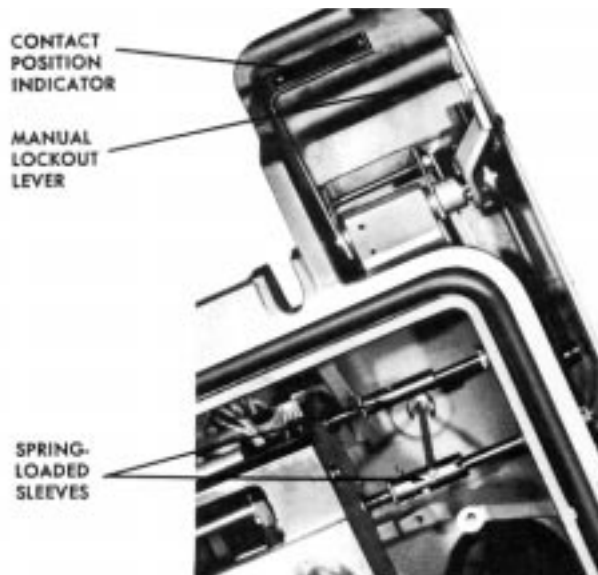

Figure 15
2. Disengage the lockout lever and the contact position indicator by pushing the spring-loaded couplers inward. Refer to figure 15. Turn the couplers to lock them in the disengaged position.